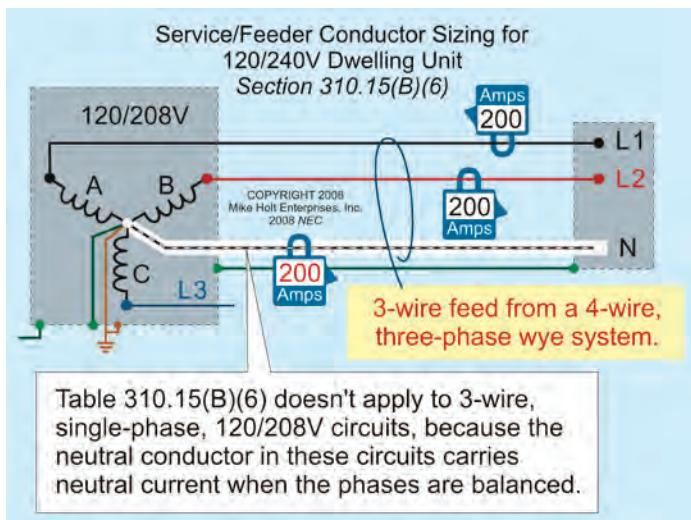

Figure 310-20
WARNING: *Table 310.15(B)(6) doesn't apply to 3-wire feeder/service conductors connected to a three-phase, 120/208V system, because the neutral conductor in these systems always carries neutral current, even when the load on the phases is balanced [310.15(B)(4)(b)]. For more information on this topic, see 220.61(C)(1). Figure 310-20*